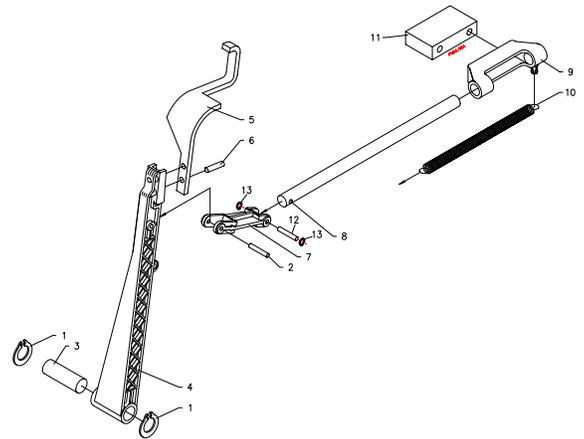

Figure 7-17: Lifter Release Assembly
5. Disconnect the lifter release tension spring (Item 10, Figure 7-17).